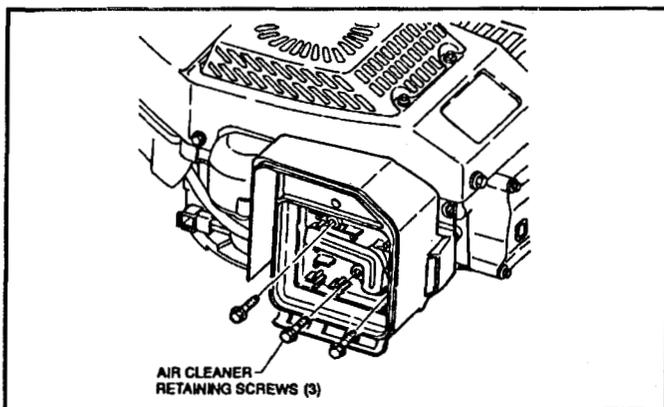

Figure 37
4. Pull the air cleaner body away from the engine and at the same time pull the breather hose off the breather vent tube. Do not lose the cork gasket between the air cleaner body and the carburetor. See Figure 37.